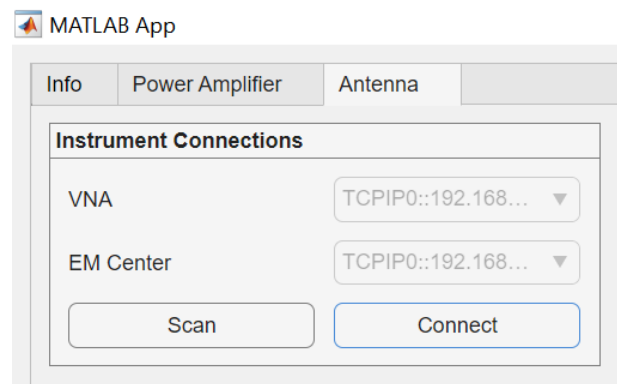

Figure 4: Successful Instrument Connection
- The dropdown menus will become greyed out, as shown in **Figure 4**, indicating a successful connection.